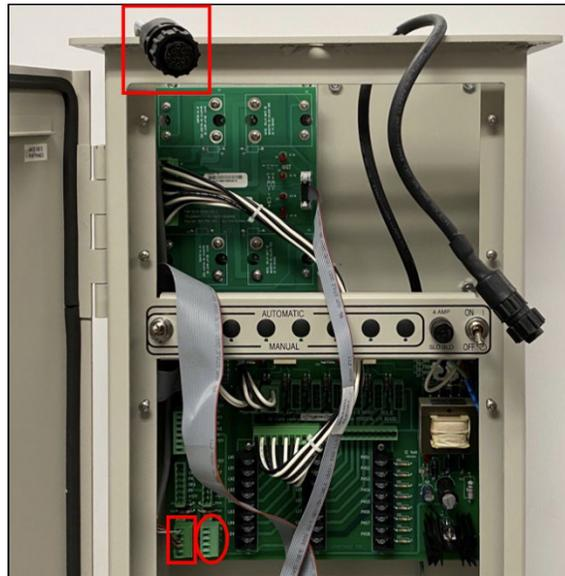

Figure 3 The Phone/Printer Cable Connection
5. Remove and discard the phone/printer cable (200085) highlighted in Figure 3 unless the FMU is communicating over a phone line (typical in credit card FMUs) OR using an on-site transaction printer.